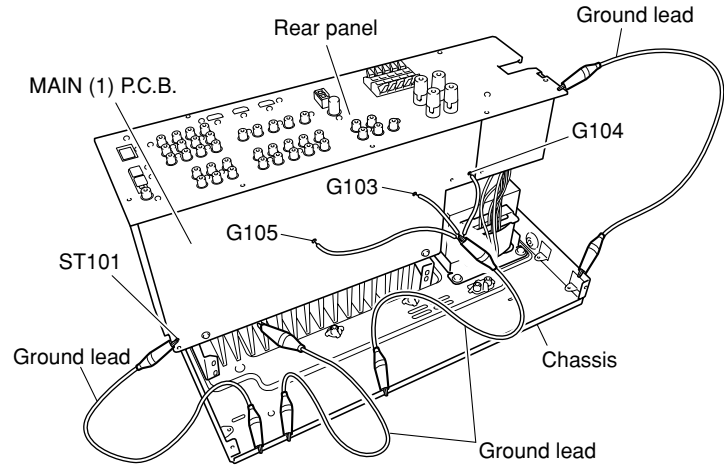

Fig. 5
- Place the P.C.B.s (with rear panel) upright. (Fig. 5)
- Connect the ground of heat sink, rear panel and MAIN (1) P.C.B. (G103, G104, G105 and ST101) to the chassis with a ground lead or the like. (Fig. 5)
2. Press the "STANDBY/ON" key while simultaneously pressing the "STRAIGHT" and "AUDIO SELECT" keys. (Fig. 5)